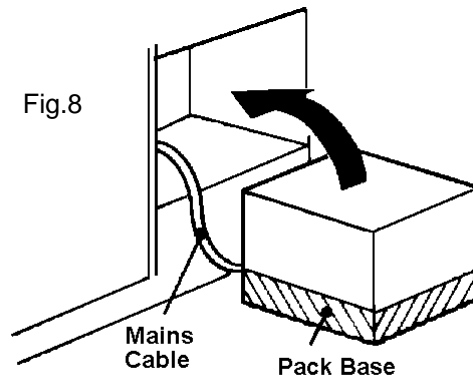

Fig.8
- Position the cooker in front of the cabinet. See Fig. 8.